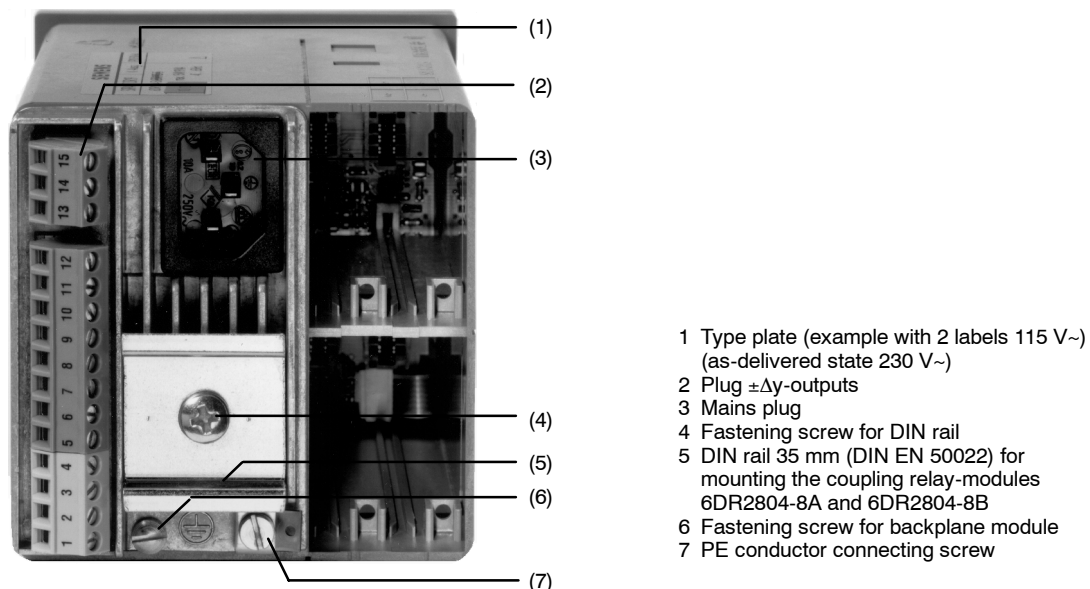

Figure 4-1 Rear of controller
Stick the two labels provided (115 V power supply) to the rating plate in the field 230 V AC and on the housing to the right of the mains plug vertically to the rear of the housing (see figure 4-1). Re-install the backplane accordingly.
The SIPART DR19 is designed for a large electromagnetic compatibility (EMC) and has a high resistance to HF interference. In order to maintain this high operational reliability we automatically assume that all inductances (e.g. relays, contactors, motors) installed in the vicinity of or connected to the controllers are assembled with suitable suppressors (e.g. RC-combinations)! To dissipate interference, the controller must be connected at the PE-terminal of the cast body (figure 4-1, page 135 item 7) with good HF-conductance.